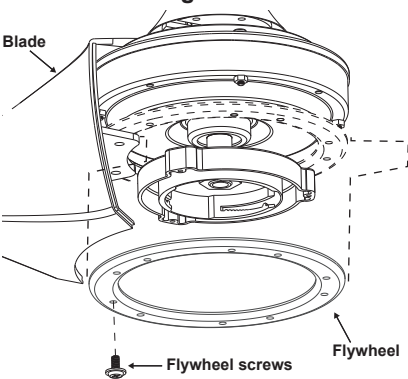

Figure 15
Step 4. Attach the flywheel to the blade on the fan motor assembly using two flywheel screws. (Fig. 15)